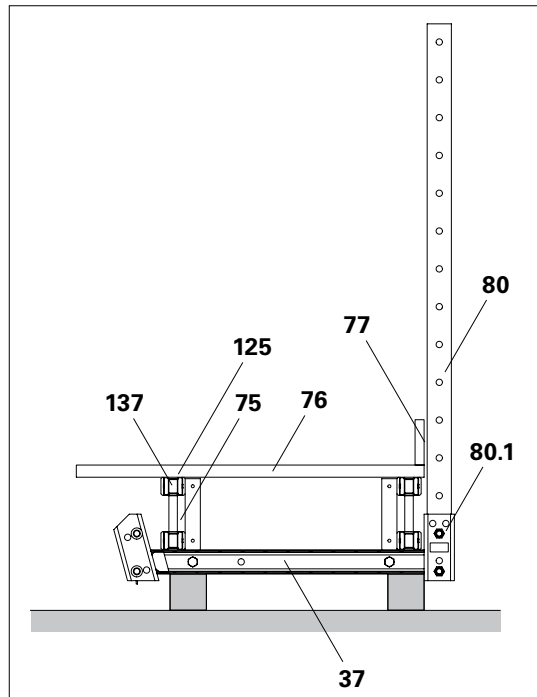

Fig. C1.09
4. Fix Guardrail Post RCS/SRU (**80**) to the concreting platform using the provided 2x hex. bolts M20 x 100 (**80.1**) and nuts. (Fig. C1.09)